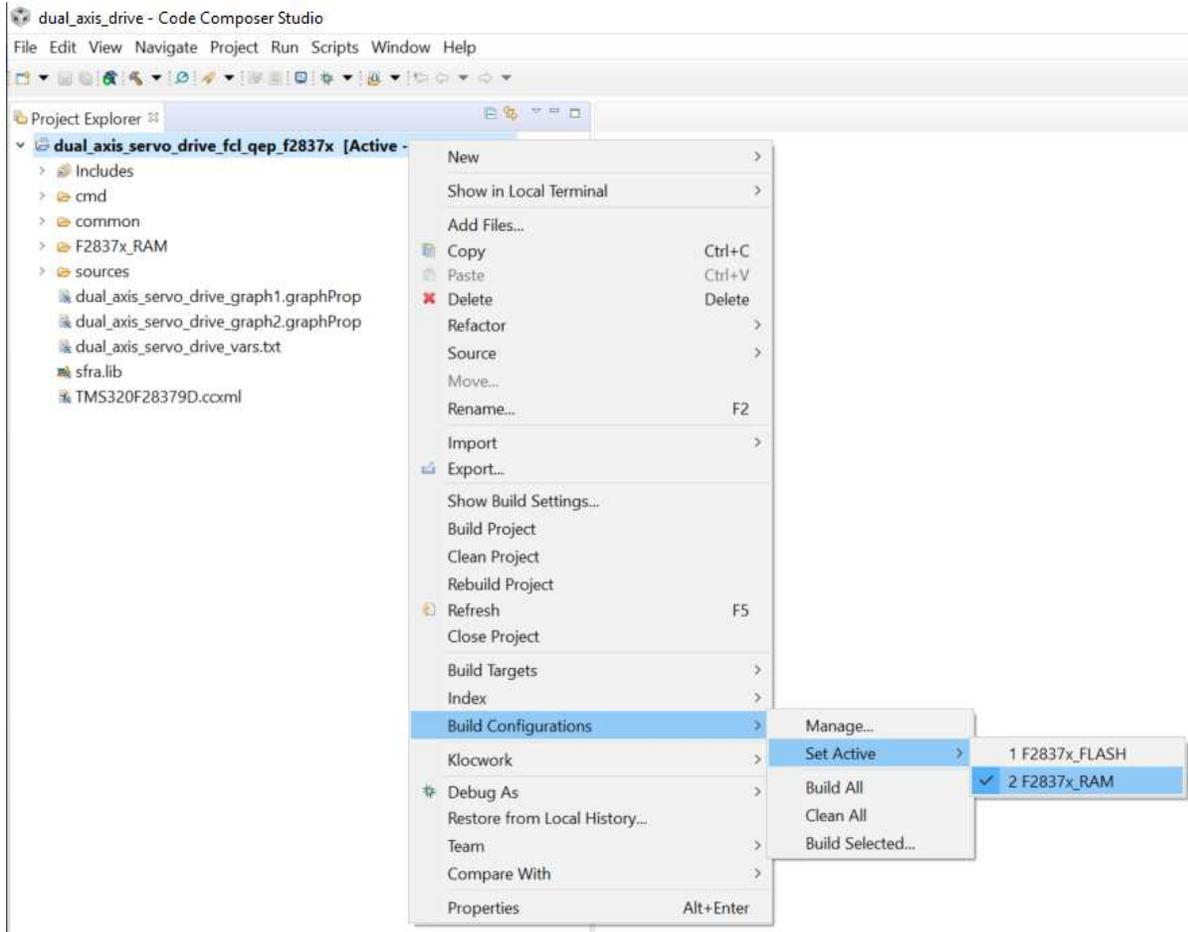

**Figure 11. New Target Configuration**
3. This should open up a new tab as shown in Figure 11. Select and enter the options as shown: